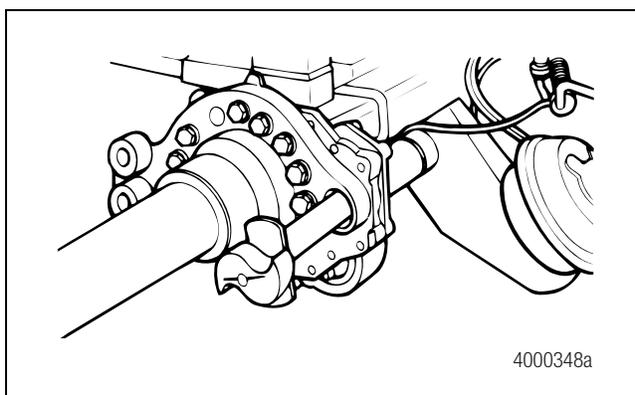

Figure 5.18
- 5. Place the cam head thrust washer onto the camshaft. Apply Meritor specification O-617-A or O-617-B grease to the camshaft bushings, camshaft journals and camshaft seal lips. Install the camshaft assembly through the spider and bracket. The camshaft should turn freely by hand. Figure 5.18.